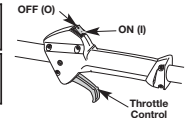

Fig. 6
- NOTE:** There is no need to turn the unit on. The On/Off Control is in the ON (I) position at all times (Fig. 6).
2. Press and hold the On/Off Control switch in the **OFF (O)** position until the unit comes to a complete stop (Fig. 6).